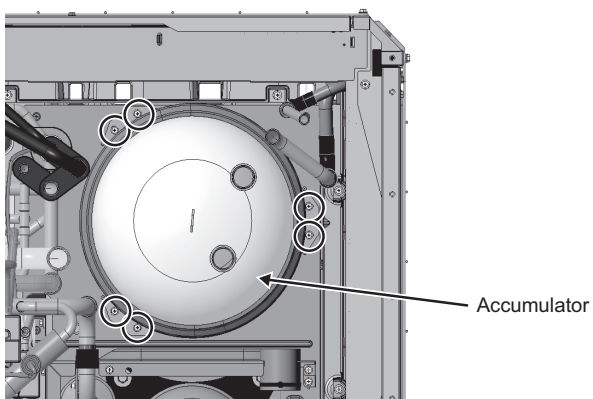

Fig. 10
- (10) Remove the screws securing the accumulator at the bottom. (Six screws: Fig. 10)